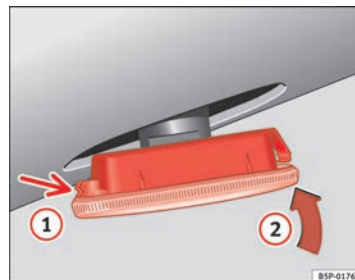

Fig. 154 Side turn signals
- First fit the turn signal in the opening in the chassis, fastening the tabs **1** ⇒ fig. 154, and then fit in the bulb as shown by the arrow **2** ⇒ fig. 154. ■